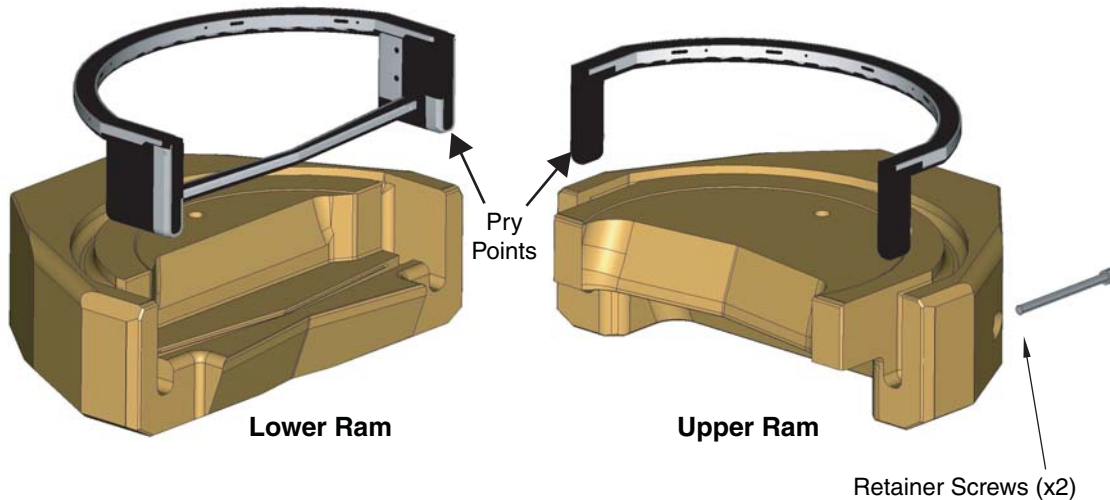

Figure 5-85. Prying CVX Ram Rubbers
3. Using a long ($\frac{3}{4}$ " blade) pry bar, pry the rubber from each end of the shear block. Pry at the bottom of the thicker ends (see Figure 5-85). Pry until the rubber is lifted approximately 1" out from the block, and the non-bonded lower packer rubber is lifted approximately $\frac{1}{2}$ " above the block.